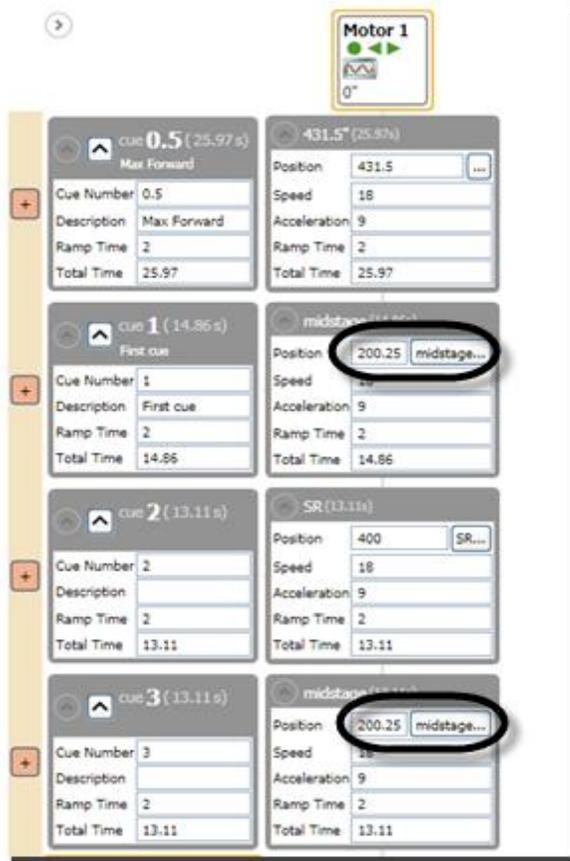

Figure 313
4. The position values will update in the cues that reference the Spike you edited (Figure 313).